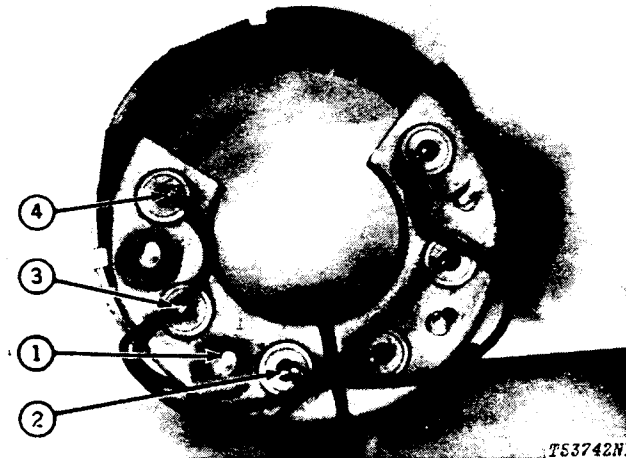

Fig. 35-In-Circuit Positive Rectified Diode Test Points
To check positive diode assembly, connect test lamp probes to output terminal (1, Fig. 35) and to diode lead (2). Reverse test lamp probes. Test lamp should light in one direction only.